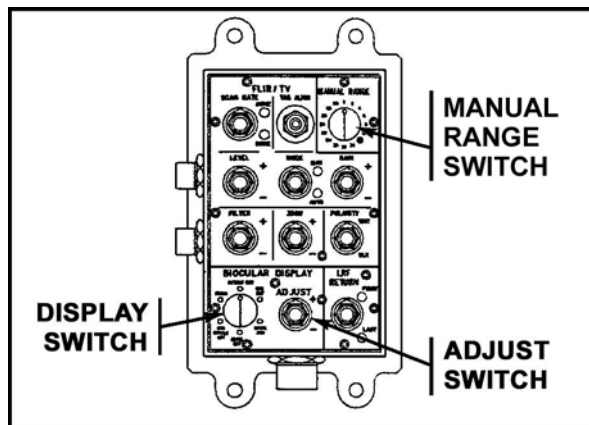

Figure 26. GSCP MANUAL RANGE switch.
- (1) Select HI MAG using the HI/LO MAG switch on the GHS.
- (2) Manually traverse the turret and elevate or depress the gun until the boresight telescope reticle is centered on the boresight panel.
- (3) Center the CIV TV reticle onto the boresight panel using the GHS.
- (4) Enter the range manually using the GSCP (Figure 26).